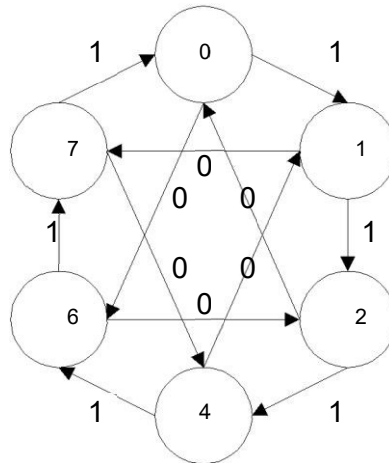

Figure 1: State Diagram of the General Sequence Counter.
A general sequence counter is to be designed such that it counts in a clockwise fixed loop when input X is 1, and in a counterclockwise loop, skipping every other state, when X is 0, as shown in Figure 1. The output of your state machine should be its count. The specific count for each state will be given to you by your instructor. You should write the assigned count for each state in the state diagram of Figure 1.
1. Design the counter shown in Figure 1 using as few logic levels as possible with D-Flip Flops. Include the following to documents for your design: